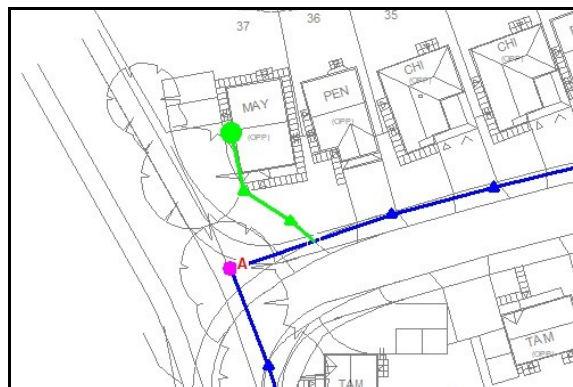

Figure 4
Enter the first customer as a polyline customer service. In this case, the service to Lot 37 will be entered as a polyline-type service, as shown in Figure 4.
- For the *Next Vertex* prompts, draw the service line by moving the mouse crosshairs to the appropriate deflection points (vertices) and the meter location, then left-click the mouse (see Figure 4). After entering the meter location, right-click the mouse to end the drawing process.